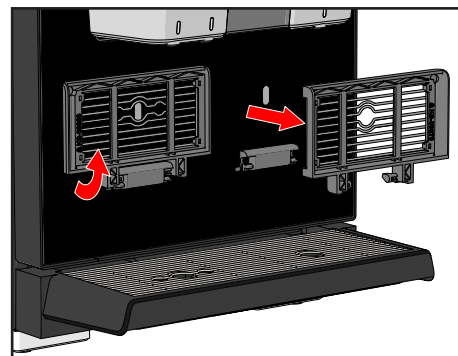

Figure 39. Remove hot water cup tray
1. Remove the hot water and coffee cup tray (see Figure 39) and clean them with hot water.